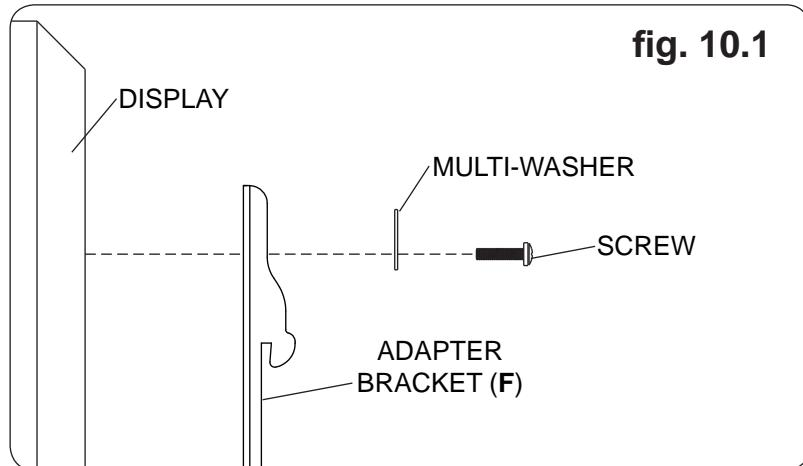

fig. 10.1
10 To prevent scratching the display, set a cloth on a flat, level surface that will support the weight of the display. Place display face side down. Refer to display manufacturers instructions or customer service, for removing any knobs, base, cover, or screw(s) on the back of the display to prepare mounting. These need to be removed to allow the adapter brackets (F) to be attached. Select the small, medium, large or extra large screws from the baffled fastener pack then attach adapter brackets to display following figure 10.1 or 10.2.